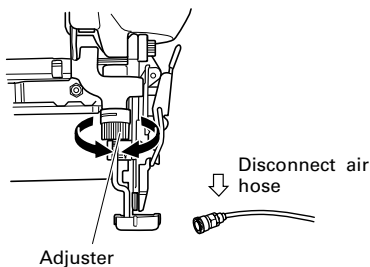

Fig. 9
**2. Adjusting the nailing depth (See Fig. 9)**